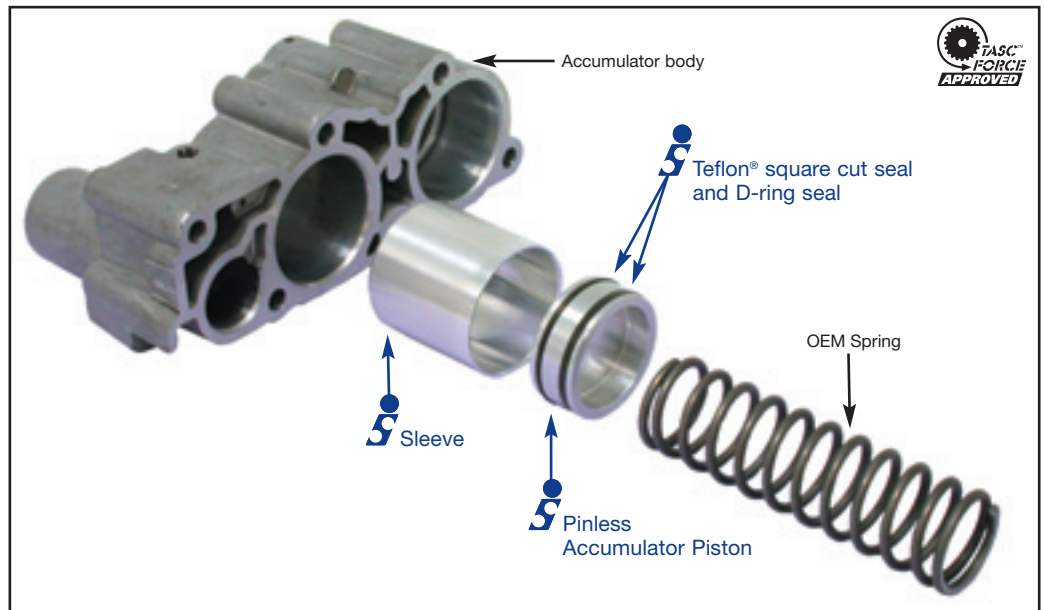

Figure 1
2. Press the plug into the pin bore (see Figure 1).